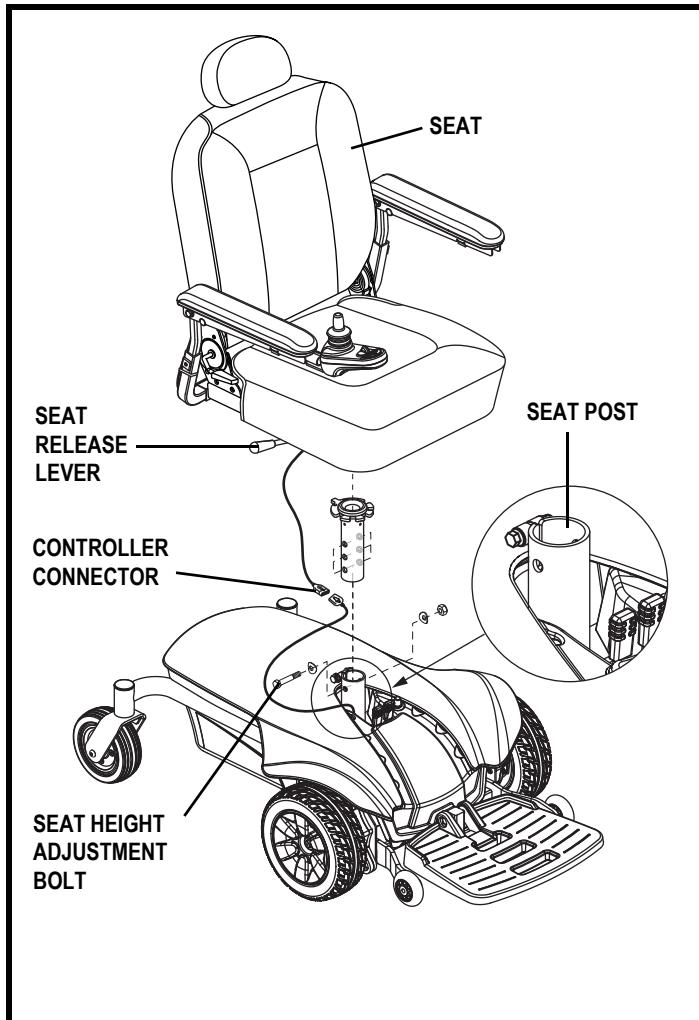

Figure 12. Seat Height Adjustment
3. Disconnect the controller connector from the power base. See **figure 12**.
4. Disengage the seat release lever. See **figure 12**.
6. Loosen the hardware at the rear of the seat post. See **figure 12**.
7. Remove the seat height adjustment bolt, washers, and nuts from the seat post. See **figure 12**.